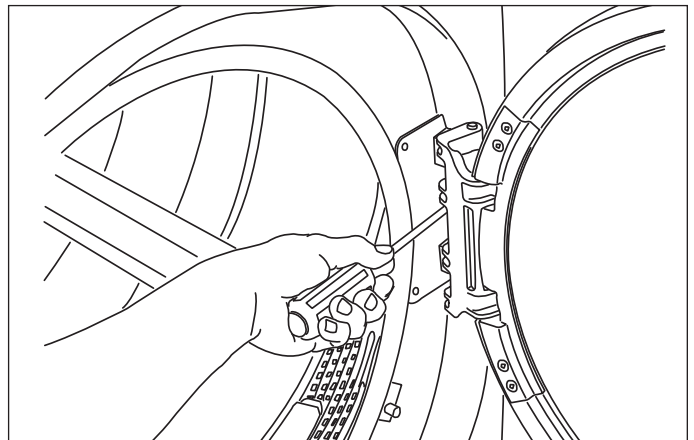

Figure 4-12.
3. Using a #2 square bit screwdriver, extract 3 short, fine thread, countersunk screws in hinge side. (See Figure 4-12)